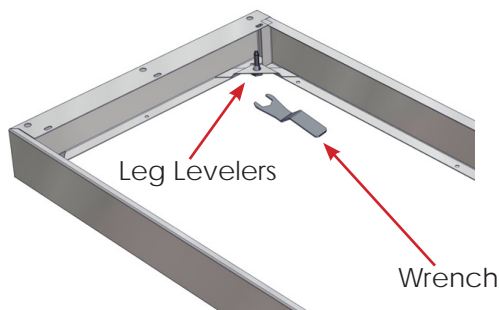

Fig. 5: Adjust Leg Levelers
2. If the cabinet ships with a separate base, place the base at the desired location for the cabinet. If Leg Levelers are provided with the base, use a level and the provided wrench (Part# IC07-01) to adjust the four leg levelers in the cabinet base until the base is level (Fig. 5).